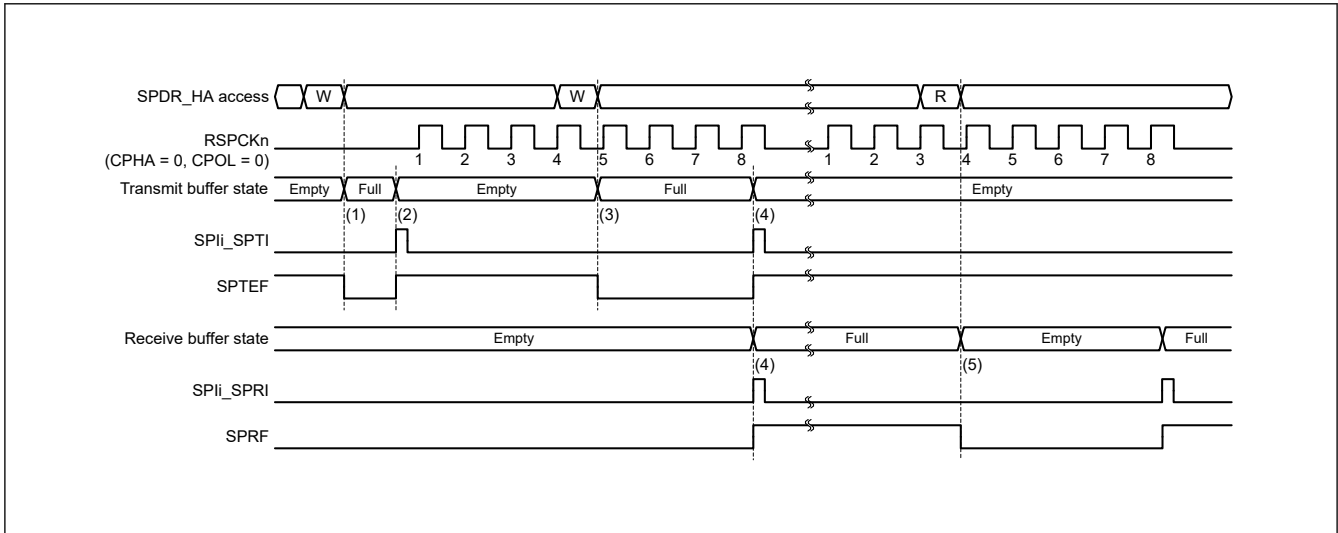
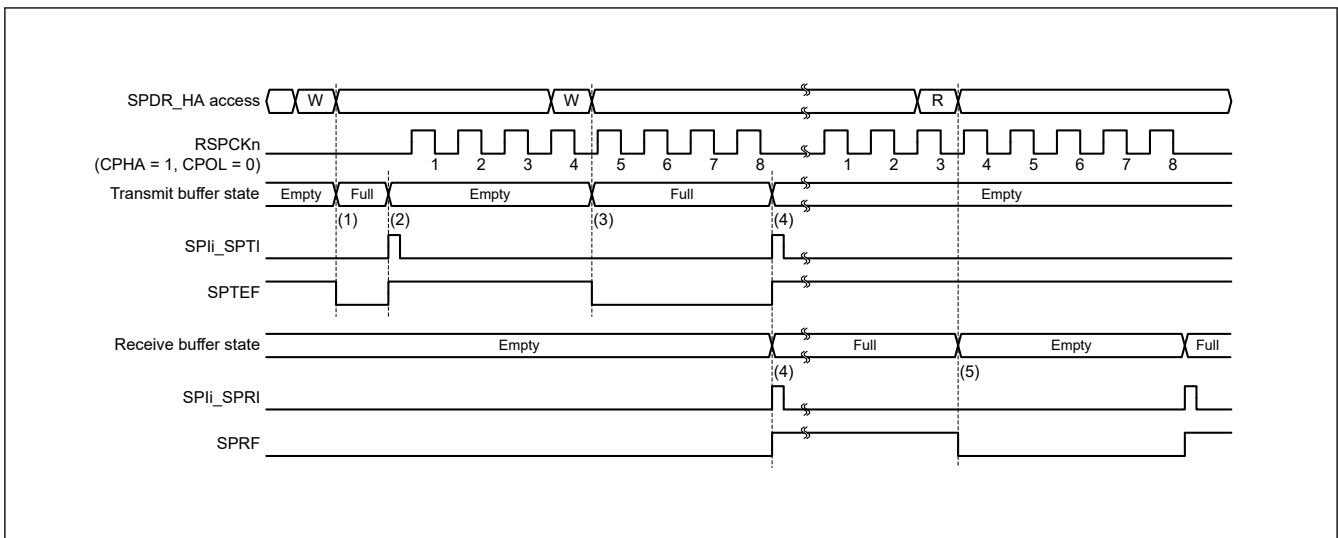

Figure 28.26 Operation example of the SPI_SPTI and SPI_SPRI interrupts when CPHA = 0 and CPOL = 0 in master mode
Figure 28.27 Operation example of the SPI_SPTI and SPI_SPRI interrupts when CPHA = 1 and CPOL = 0 in master mode
Figure 28.26 and Figure 28.27 show examples of operation of the transmit buffer empty interrupt (SPIi_SPTI) and the receive buffer full interrupt (SPIi_SPRI). The SPDR_HA register accesses shown in these figures indicate the conditions of access to the register, where W denotes a write cycle and R a read cycle. In Figure 28.26, the SPI performs an 8-bit serial transfer when SPCR.TXMD bit is 0, the SPCMD0.CPHA bit is 0, and the SPCMD0.CPOL bit is 0. In Figure 28.27, the SPI performs an 8-bit serial transfer when SPCR.TXMD bit is 0, the SPCMD0.CPHA bit is 1, and the SPCMD0.CPOL bit is 0.
The operation of the SPI at timings (1) to (5) in Figure 28.26 and Figure 28.27 is as follows: